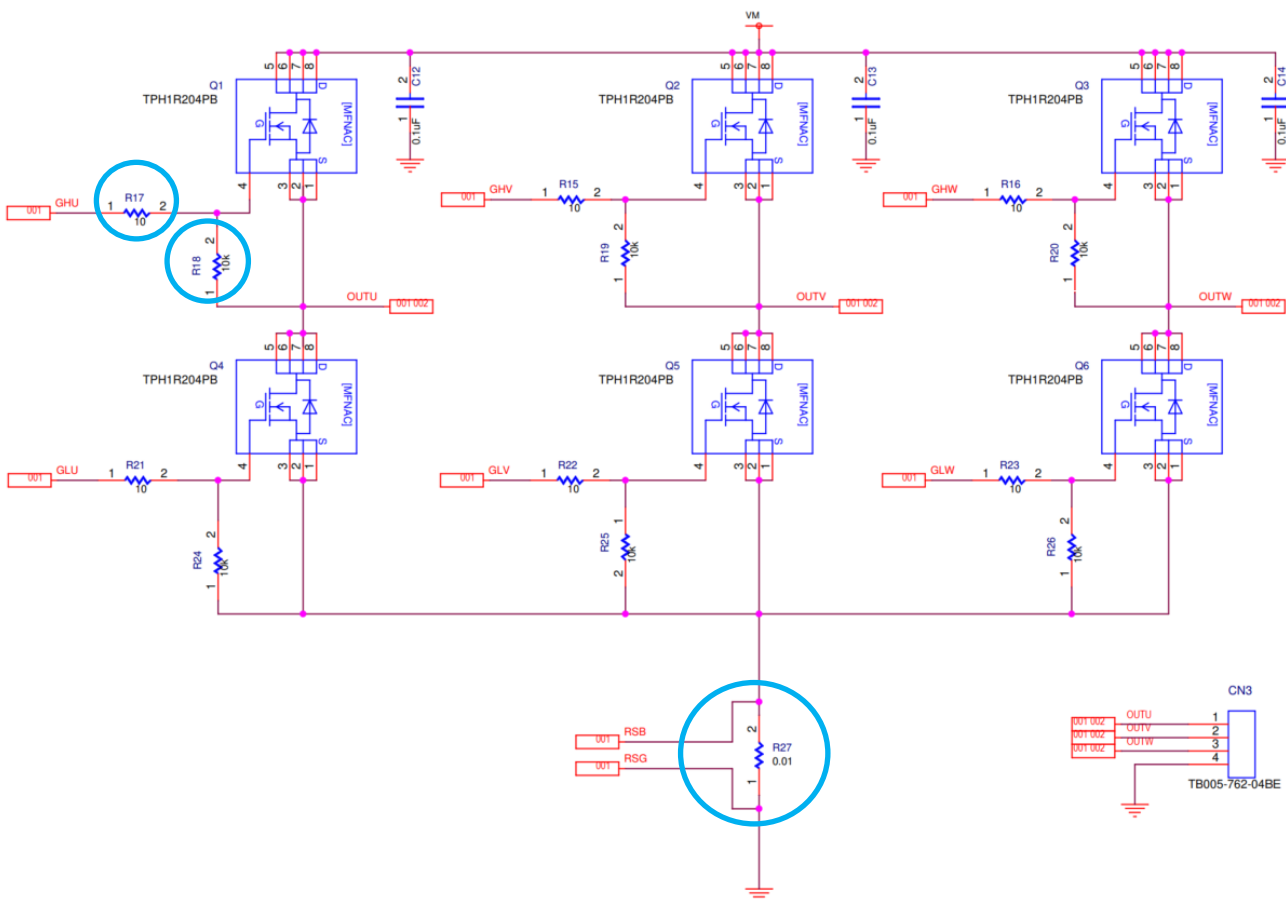

Fig. 4.3 Inverter Circuit
The inverter circuit is used to drive a 3-phase brushless motor by using the DC power supply (VM). Six high speed TPH1R204PB MOSFETs are used as switching devices in this inverter. These MOSFETs are controlled by TC78B011FTG. The inverter circuit of this design is shown in the following Fig. 4.3.